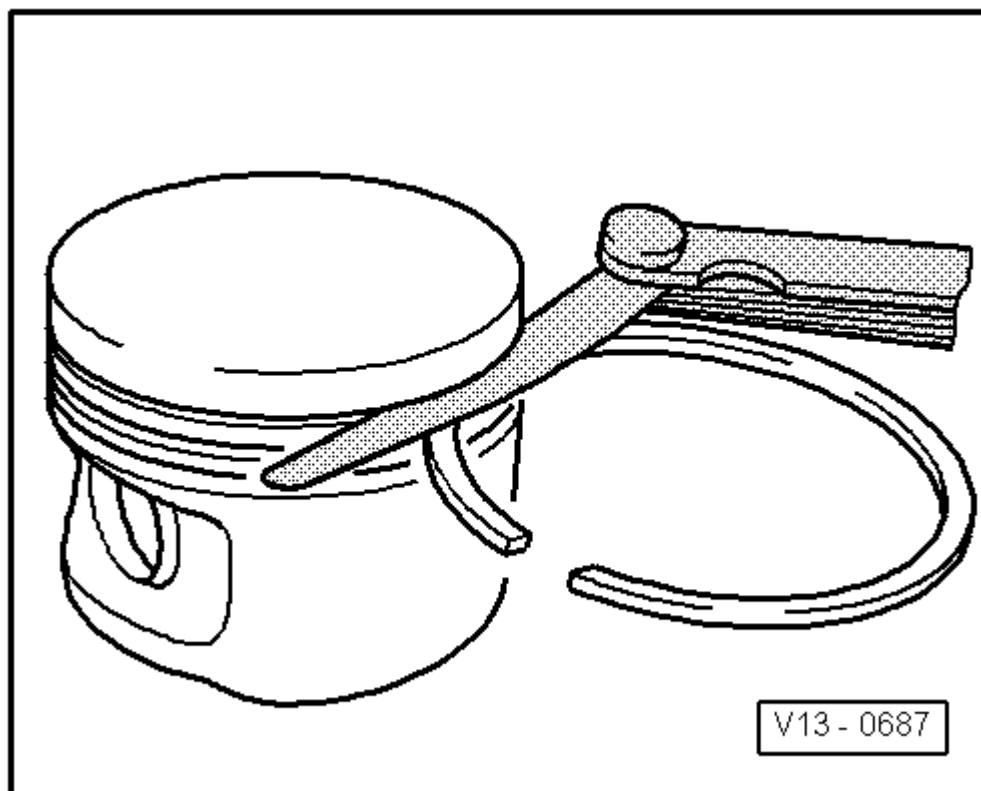

Fig. 23: Checking Piston Ring Gap
- Checking the piston ring groove clearance. Refer to **Fig. 23**.